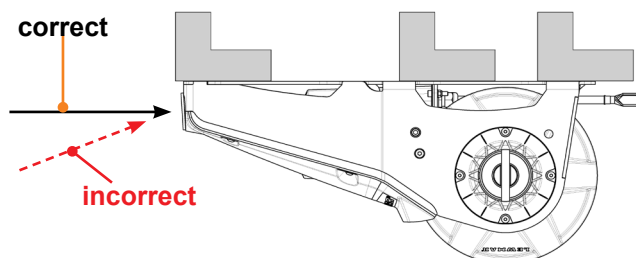

Fig.8
5. The lead from the bow roller should be fed horizontally—not at an angle—back to the winch rope feeder (Fig.8).